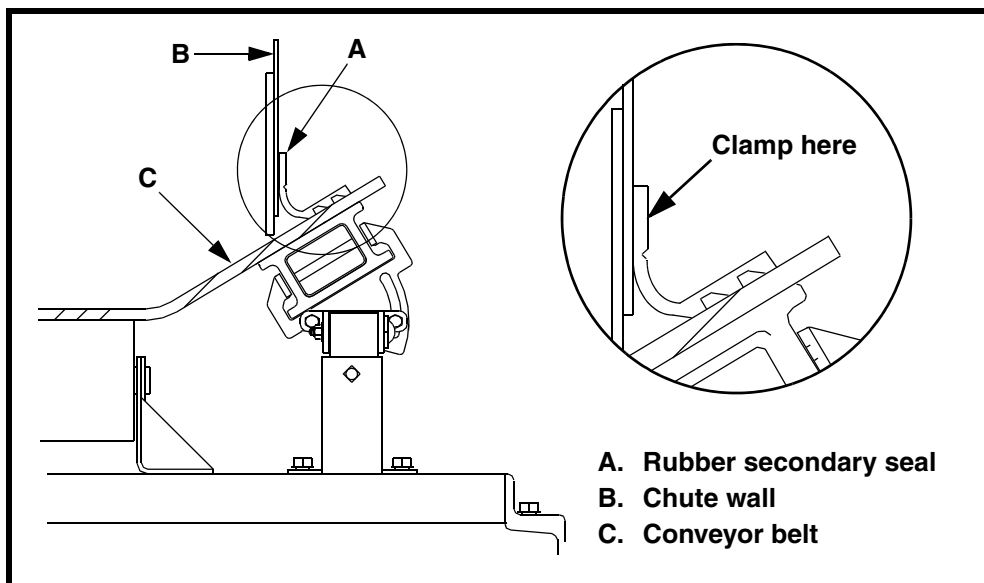

Figure 7. Installing Rubber Secondary Seal
1. Place rubber seal or 1-piece seal (A, Figure 7 or 8) against chute wall (B).